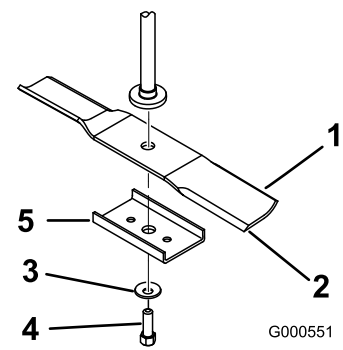

Figure 46
Hold the blade end using a rag or thickly-padded glove. Remove the blade bolt, curved washer, blade stiffener, and blade from the spindle shaft (Figure 46).
1. Install the blade onto the spindle shaft (Figure 46).
2. Install the blade stiffener, the curved washer (cupped side toward the blade) and the blade bolt (Figure 46).